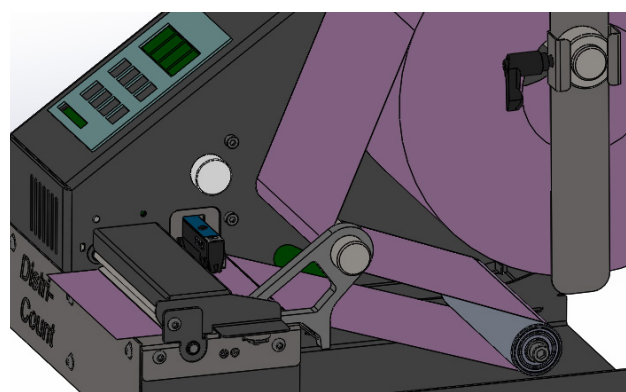

FIG. 4
- load the labels till they are circa 1 cm out the DISTRI-COUNT (FIG.4)
- close the mechanism cover again (FIG.4)
- adjust the sensor position (4) with the adjustment knob (5) so it is able to detect your labels and the label gap or a black-mark on the liner material
- the DISTRI-COUNT presents the first label precizely on the TEAR-OFF-BAR (8) and is now ready for use
- opening and closing from the mechanism cover (7) will initiate a new calibration process